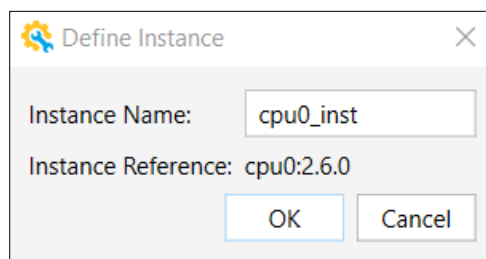

Figure 3.4. Specifying Instance Name
- Confirm or modify the module instance name, as shown in Figure 3.4. Click **OK**.